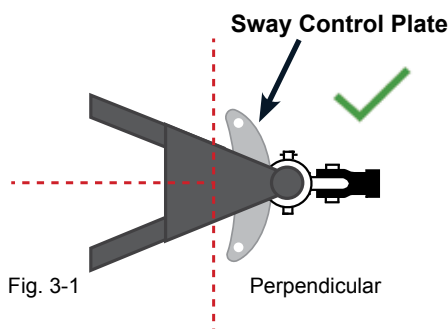

Fig. 3-1
**3-3.** Look at a bird's-eye-view of the Sway Control Plate (see below) to make sure that the Sway Control Plate is close to perpendicular to the trailer frame (fig. 3-1). If not, use a rubber mallet and hit one side of the sway plate until perpendicular or raise the trailer jack off the ground\* and use the tow vehicle to move the trailer forward or backward at an angle until the plate is close to perpendicular to the trailer frame (fig. 3-3). **NOTE: The plate does NOT need to be perfectly perpendicular, a little off of perpendicular is fine.**